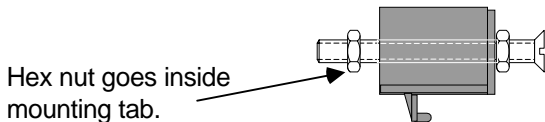

Figure 2-1. Mounting Tab Assembly
3. Thread a hex nut onto each screw. Insert a screw through each mounting tab. Thread a second hex nut onto each screw as shown in Figure 2-1.